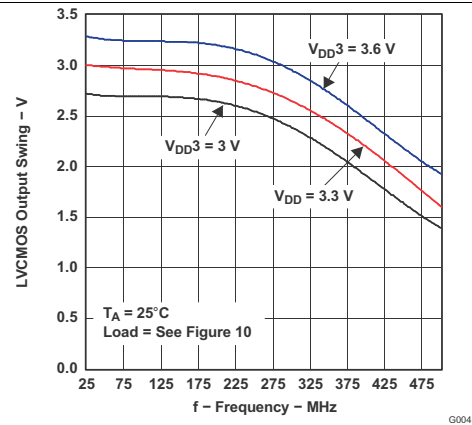

Figure 4. Amplitude CMOS Peak-to-Peak vs Frequency
| f clk                                | Output frequency (3) (see <a href="#">Figure 4</a> )                          |                                                                   | 0                      |                       | 200                    | MHz  |